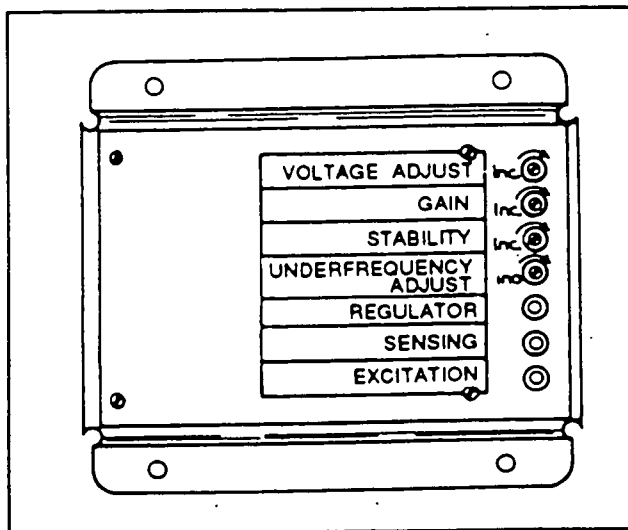

Figure 5. The AC Voltage Regulator
The Regulator is equipped with three (3) lamps (LED's or "light emitting diodes). See Figure 5. These lamps are normally on during operation with no faults in the system. The green EXCITATION lamp and the red REGULATOR lamp are both turned on by stator excitation winding output. If, for any reason, stator excitation winding output were to be reduced, the two lamps would begin to dim. Finally, at some mid-point voltage and current, the two lamps will no longer glow visibly.